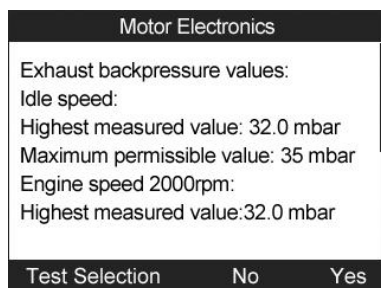

Figure 11.46
- f) The tool will submit a summary report for your confirmation.(Figure 11.46)